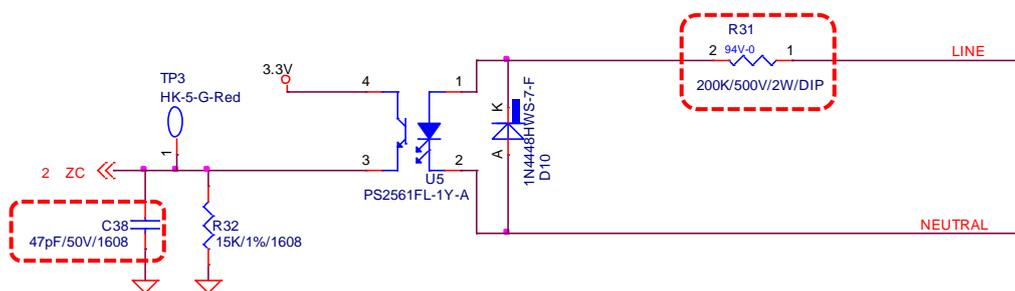

Figure 3-10 Example of a zero-cross detection circuit
- Figure 3-10 shows an example of a zero-cross detection circuit used in a PLC board.